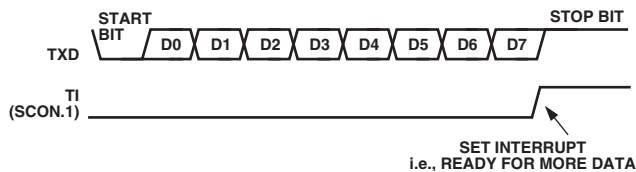

Figure 40. UART Serial Port Transmission, Mode 0
Transmission is initiated by writing to SBUF. The “write to SBUF” signal also loads a 1 (stop bit) into the ninth bit position of the transmit shift register. The data is output bit by bit until the stop bit appears on TXD and the transmit interrupt flag (TI) is automatically set as shown in Figure 40.